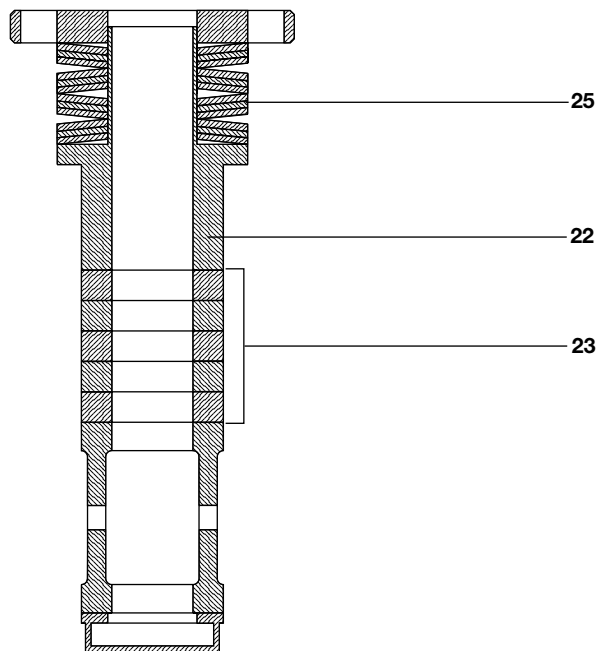

Fig. 3 Graphite gland seal assembly
14. Install the packing components according to the order in Fig. 3.